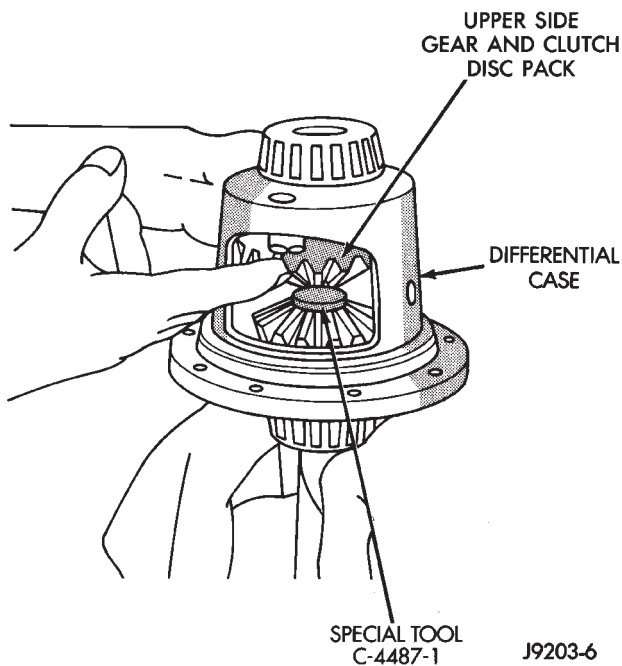

Fig. 15 Upper Side Gear & Clutch Disc Pack Installation
(7) Install lubricated Step Plate C-4487-1 on first clutch pack (Fig. 15).
(8) Install the upper side gear and clutch disc pack (Fig. 15).